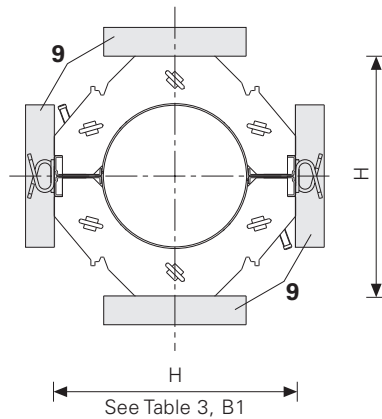

Fig. A4.01
- The dimension “H” and the straight outside edge allow easier attachment of locating boards (9). (Fig. A4.01)